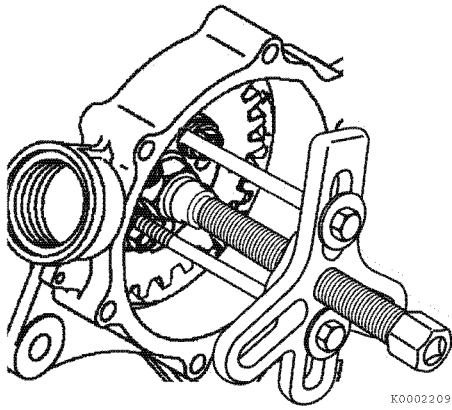

Figure 7-18
17. Remove the injection pump drive gear and hub from the injection pump drive shaft as an assembly using an appropriate gear puller (**Figure 7-18**).